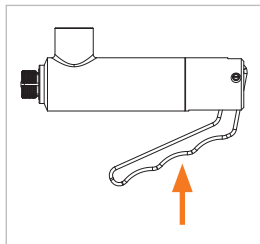

Figure 5
- ▶ Actuate the hand lever (Pos. 2) (Figure 5). The clamping jaws will close together.